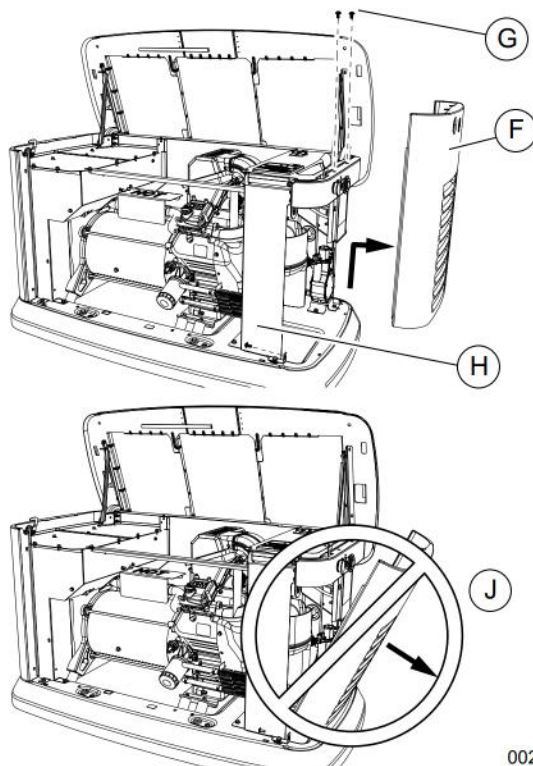

Figure 3-3. Intake Side Panel Removal
See **Figure 3-3**. Intake side panel (F) must be removed to access battery compartment, fuel regulator, and sediment trap.
2. Use a hex key to remove two mounting screws (G) and L-bracket screw (H).